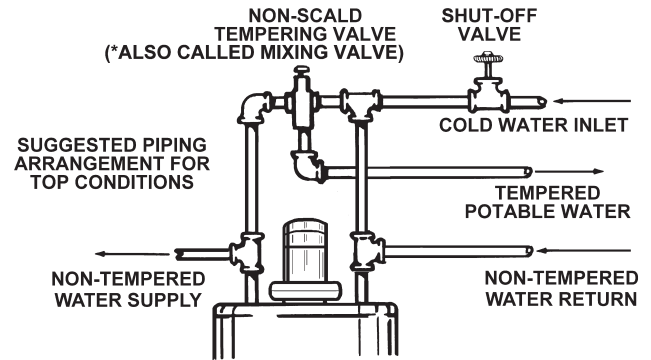

FIGURE 7
4. When the system requires water for space heating at temperatures higher than required for domestic water purposes, a *mixing valve must be installed, see Figure 7 for suggested piping arrangement.